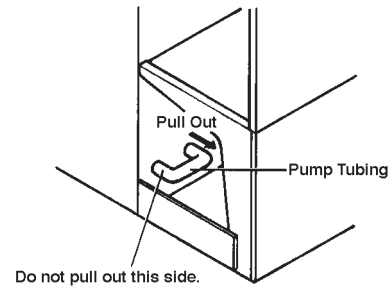

Fig. 4
- 5) Remove one end of the pump tubing (see Fig. 4). Drain the water tank. Replace the pump tubing in its correct position.